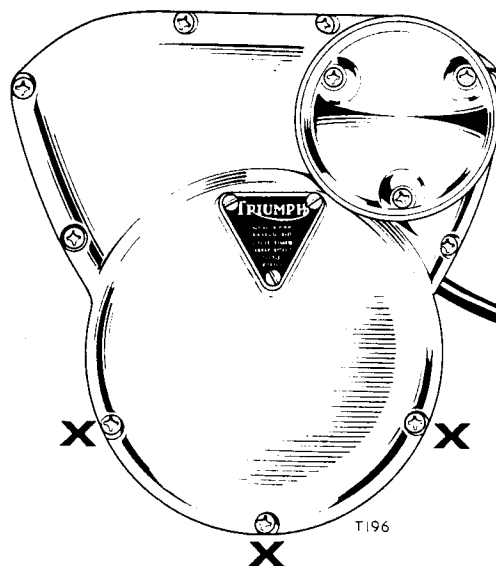

Fig. B25. Position of screws
To refit the timing cover, fit the timing cover oil seal protector tool D1810 into the end of the camshaft. Apply jointing compound to the joint surface of the timing cover, and refit the cover over the protector tool and secure as a reversal of the dismantling procedure. The long screws (X) are shown in Fig. B25.